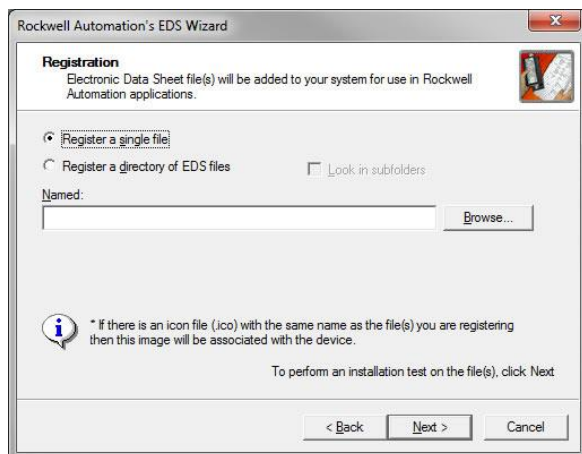

Figure 22: EDS Registration
- 4) The "Registration" dialog will appear. Refer to Figure 22.